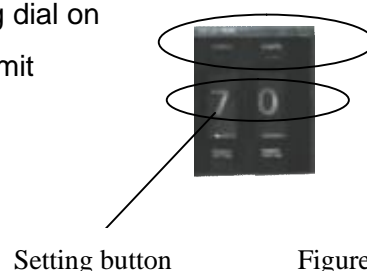

Figure 4
6.3.6.2 See Figure 4, using the over-temperature setting dial on the panel+, — button to set the required temperature limit temperature.